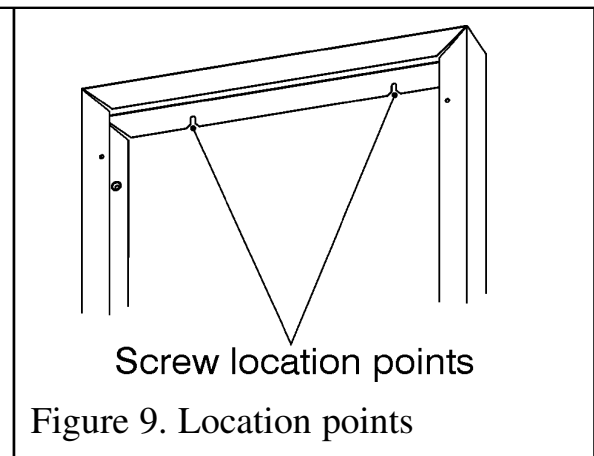

Figure 9. Location points
2. The top rear flange of the spacer frame has two screw locations. Mark the positions of the two screw locations on the rear wall (See figure 9).